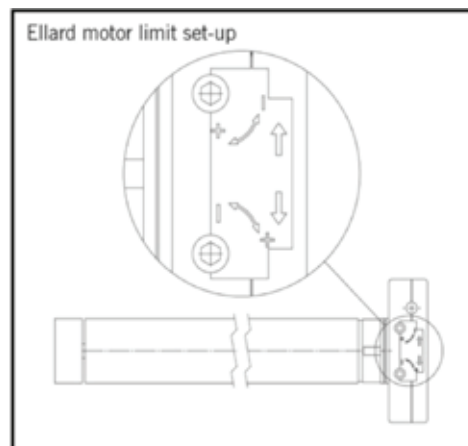

Fig 22
9.4 Limit Switch Adjustment (see Fig 22)